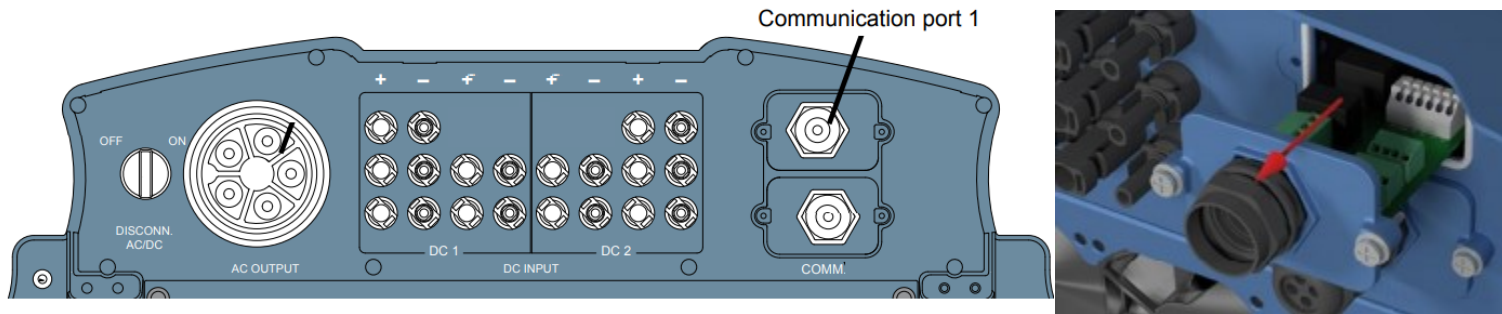

Figure D1 –Bottom of the Delta String Inverter for Connections
1. Please unscrew the RS485 terminal (communication port 1) as shown in *Figure D1*.